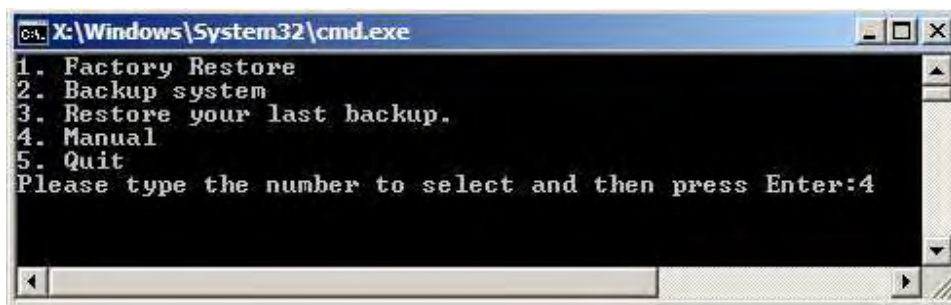

Figure B-11: Recovery Tool Menu
- Step 2:** The recovery tool menu appears. Type <4> and press <Enter>. (**Figure B-11**)